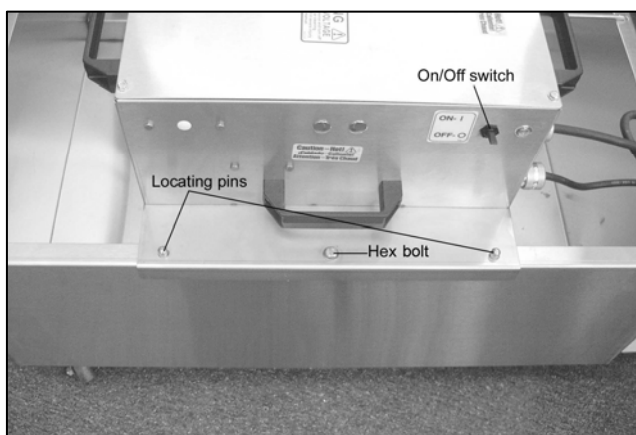

Figure 2-2. Pump motor housing.
- d) Remove the hex bolt (See Figure 2-2).
- e) Lift the pump/motor housing off of the locating pins (See Figure 2-2).